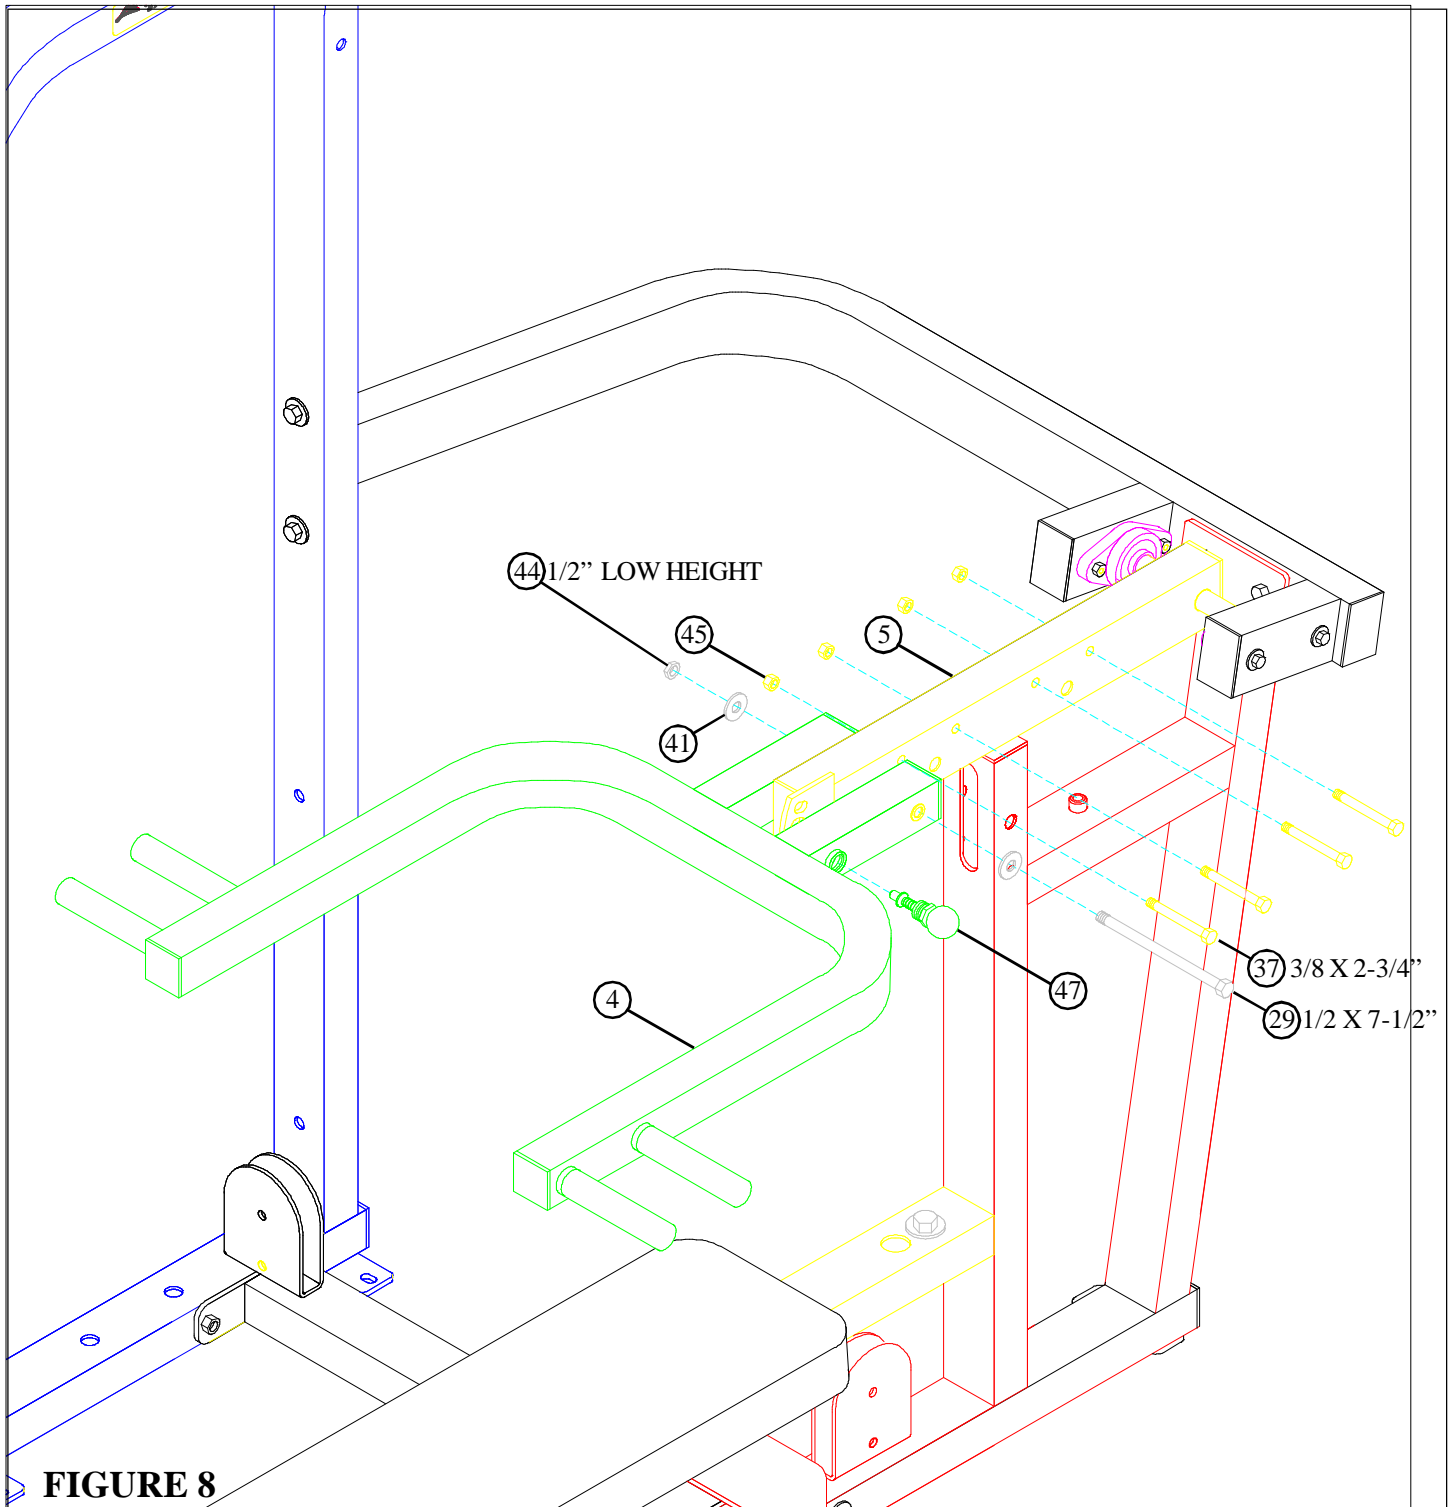

FIGURE 8
- **SECURELY** assemble one 1/2" SPRING PIN (47) to the PRESS ARM (4) as shown in FIGURE 8. (**IMPORTANT! Tighten spring pin completely.**)
- **SECURELY** assemble the PRESS ARM (4) to the PRESS ARM ADJUST (5) using one 1/2 X 7-1/2" BOLT (29), two 1/2" WASHERS (41), and one 1/2" LOW HEIGHT LOCK NUT (44). (**NOTE: SECURELY tighten, then back nut off 1/4 turn to allow the press arm to rotate freely.**) See FIGURE 8.
- Pull back on 1/2" SPRING PIN (47) to adjust the PRESS ARM (4) position.